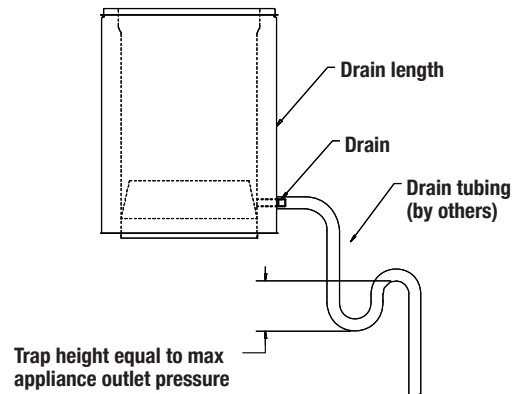

Figure 49 - Drain length
3. The drain tubing should include a water trap of a height at least equal to the maximum expected operating pressure at the appliance outlet to avoid allowing flue gases to vent through the drain. See **Figure 49**.